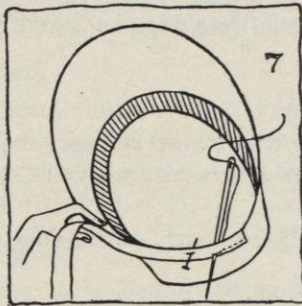
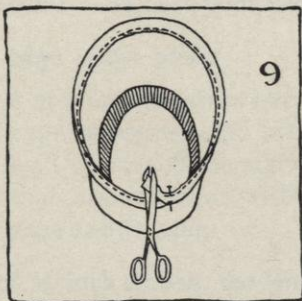

FIG. 7.
FIG. 9.
- f. Draw the ribbon smooth, but be careful not to pull your brim out of shape. Put a pin in the selvage about 4 inches away from the starting point, keeping one half of the ribbon on each side of the brim, and pinning from starting point toward the left-hand side (see Figure 7).
- (1) Take a tiny stitch in the selvage farthest from you.
- (2) At that point, stick the needle through the brim of the hat.
- (3) Slant your needle towards you so that it comes out in the opposite selvage, about $\frac{1}{4}$ inch away (see Figure 7).
- (5) Now start again, stick your needle through the brim (see Section g (2)); then slant the needle toward you, and come through the opposite selvage again, $\frac{1}{4}$ inch away (see Section g (3)); turn binding toward you and take a tiny stitch back through the selvage, (see Section g (4)) the brim, and selvage on opposite facing of brim (see Figures 7 and 8).
- (6) After you have completed about 3 inches of your work, show it to your teacher for her approval.
- c. Allow $\frac{1}{4}$ inch more for seam and cut (see Figure 9).